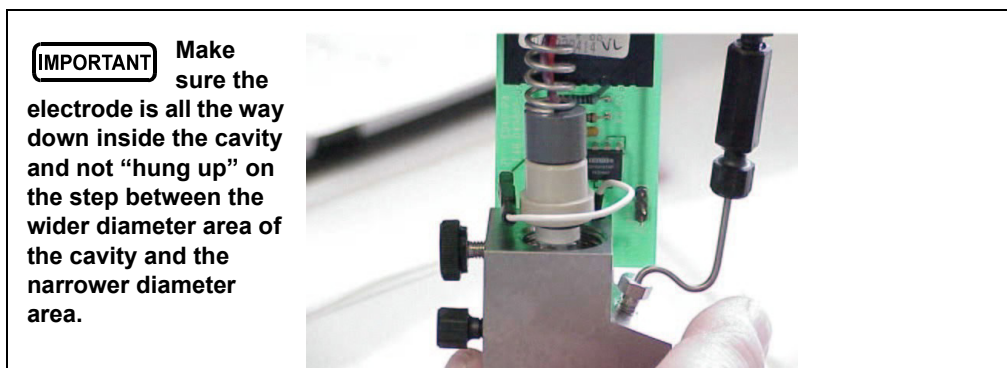

Figure 5-6. Installing the Reference Electrode
- b. Make sure the reference electrode is centered in the reference electrode cavity and then carefully insert the electrode until it touches the stop ring at the bottom of the cavity (see Figure 5-6).